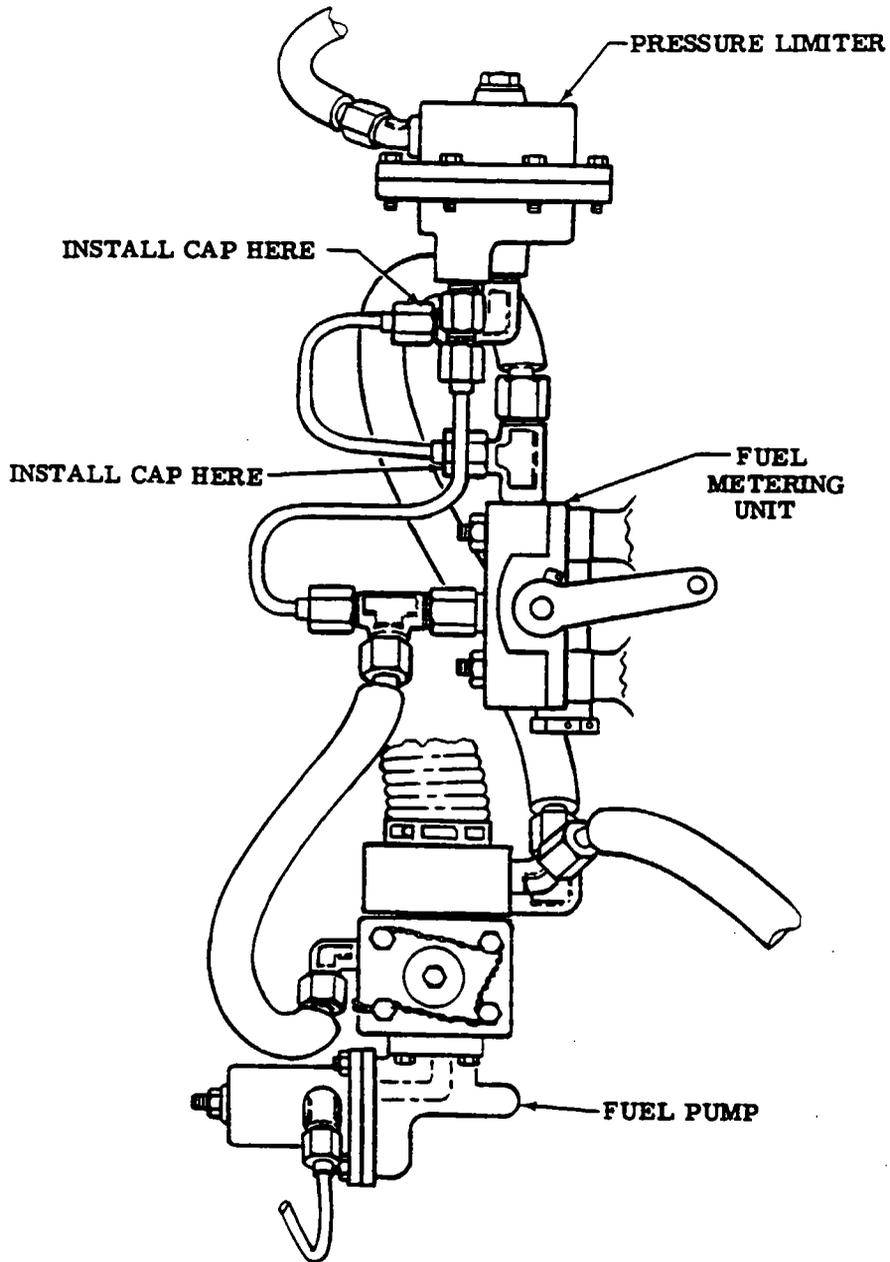

Figure 12-7. Fuel-Injection Pump Adjustment/Test
- d. Disconnect line from the return (center) port of fuel flow limiter, plug line and cap port. Refer to figure 12-7.
- f. Adjust engine idle speed to 600 ± 25 rpm and check test gage for 5.5 - 6.5 PSI. Refer to figure 12-7 for idle mixture adjustment.